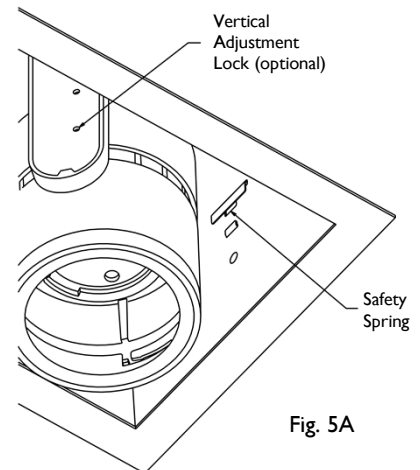

Fig. 5A
Note: Safety Springs must be flush to the inner walls to indicate the springs have engaged properly (Fig. 5A).
* To remove LLAVRM LE Series from LLAVRM FIK Series, Safety Springs must be pried out of place. Use a flat head screwdriver to put it through a small rectangular window, and pry it towards the LED head while gently pulling down on LLAVRM LE Series. Do this at one end first and pull down approximately 1-2" before pulling down opposite end (Fig. 5A).
To remove LLAVRM LE Series from LLAVRM FIK Series, Safety Springs must be pried out of place. Use a flat head screwdriver to put it through a small rectangular window, and pry it towards the LED head while gently pulling down on LLAVRM LE Series. Do this at one end first and pull down approximately 1-2" before pulling down opposite end (Fig. 5A, Page 2). Afterwards, perform steps 2-5 in reverse to remove LLARVRM LE Series completely.